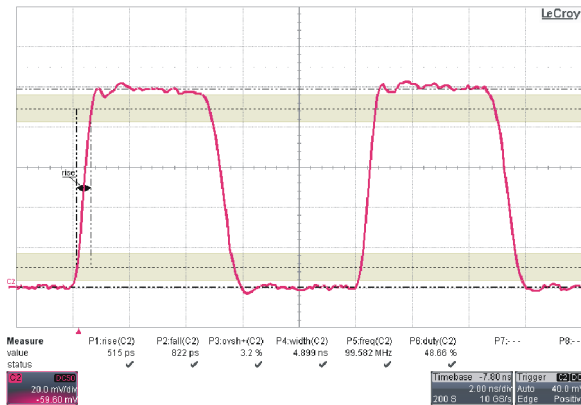

Figure 24 Digital pulse stream and optical output response
The iBEAM smart pulse option enables the user to apply a digital pulse stream to the Digital In connector (2) of the laser, which then is directly converted into an optical output. An example is shown in Figure 24. In addition TOPTICA's "Autopulse" feature becomes available, which can make an external pulse generator redundant.